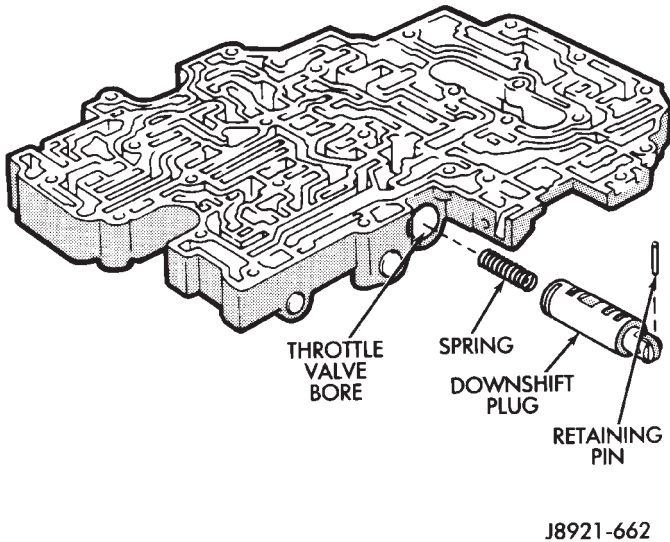

Fig. 19 Installing Downshift Plug
- (14) Install downshift spring and plug in throttle valve bore. Press plug inward against throttle valve and spring and install retainer pin (Fig. 19).